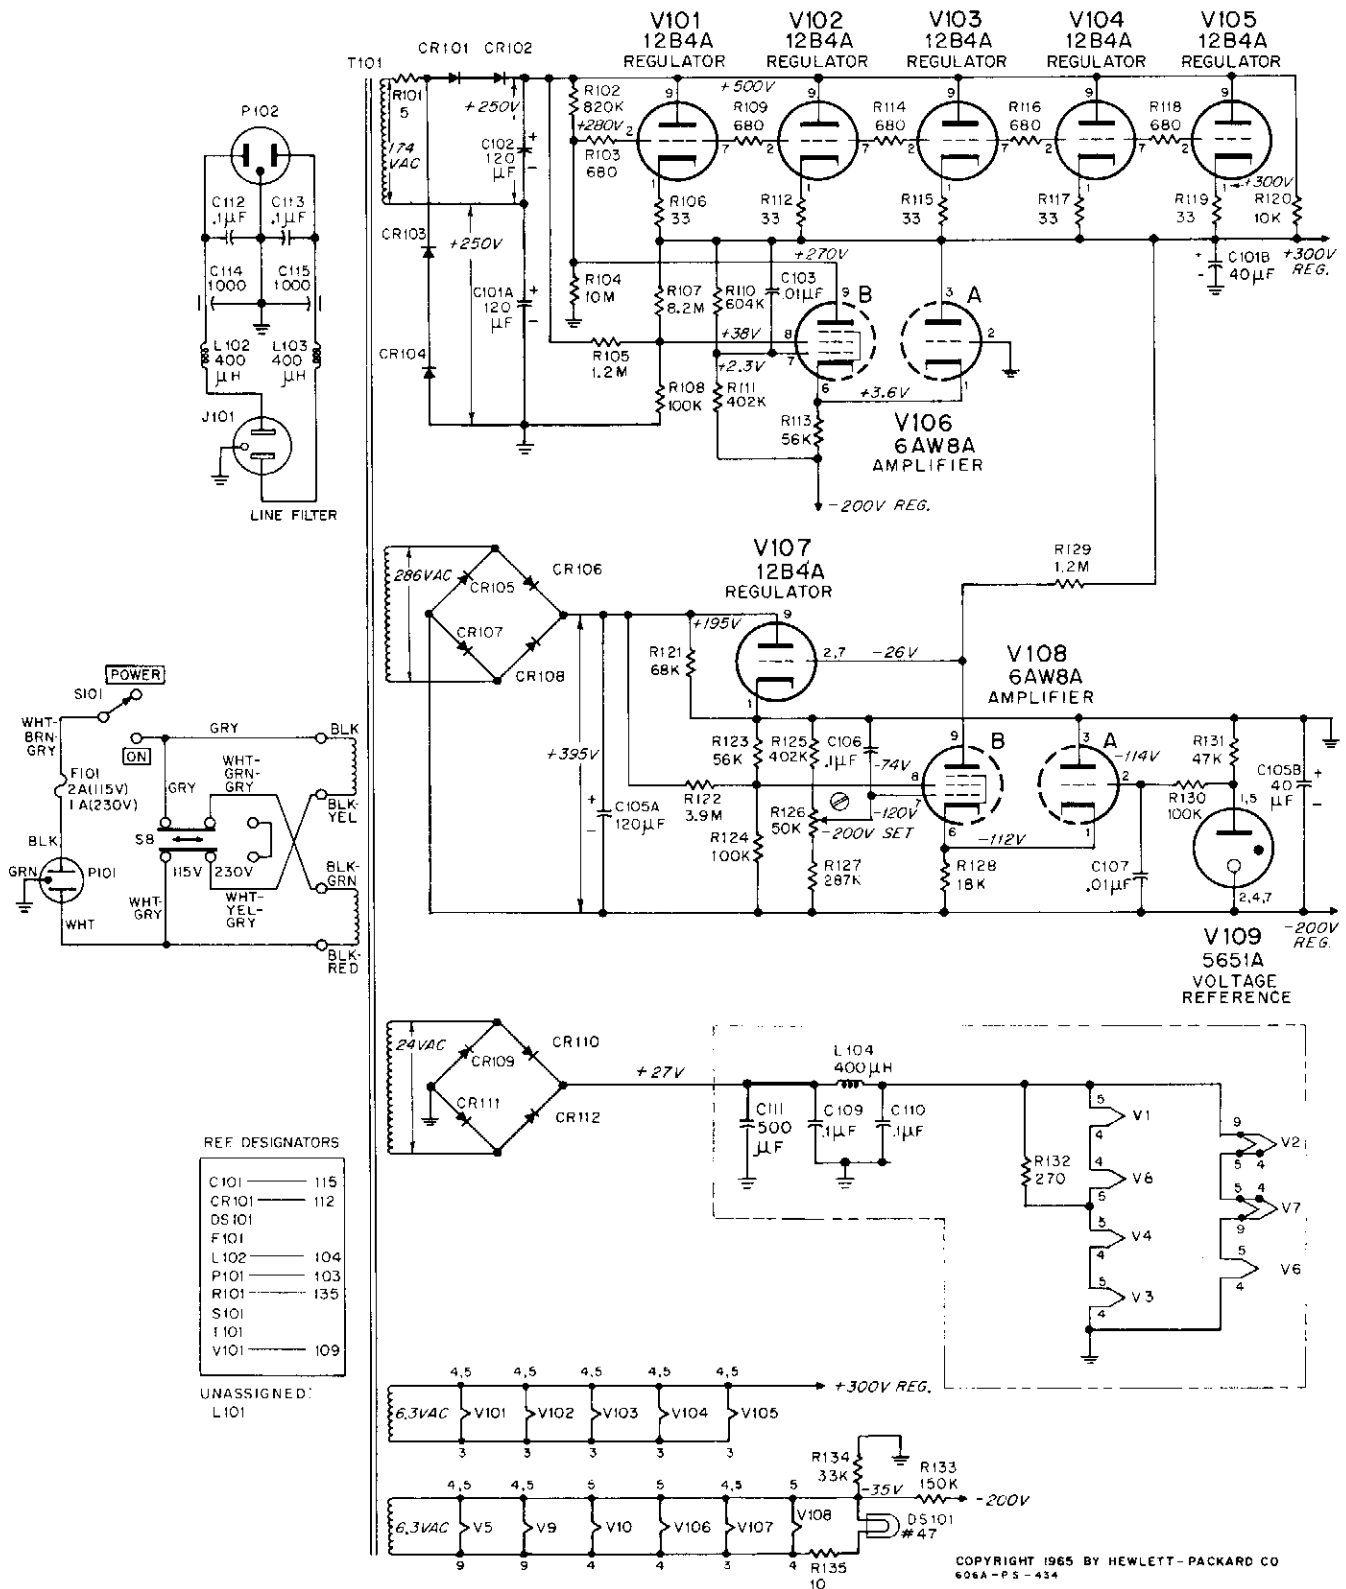

Figure 4-10. Power Supply
Change Figure 4-10 Power Supply as shown below.
▶ Page 4-21, Figure 4-10 (schematic):